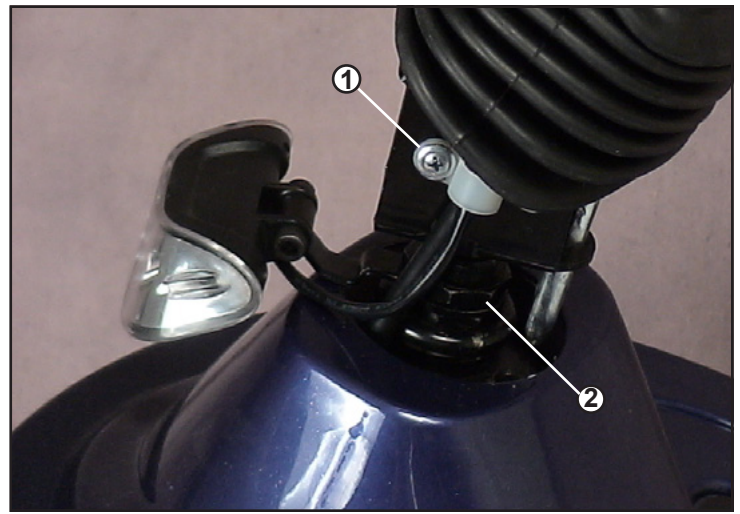

Figure 32. Lower Harness Upper Clip
13. Remove the lower main harness clip. (See #1 on figure 32.)
14. Unscrew the nut that secures the headlight LEDs. (See #2 on figure 32.)